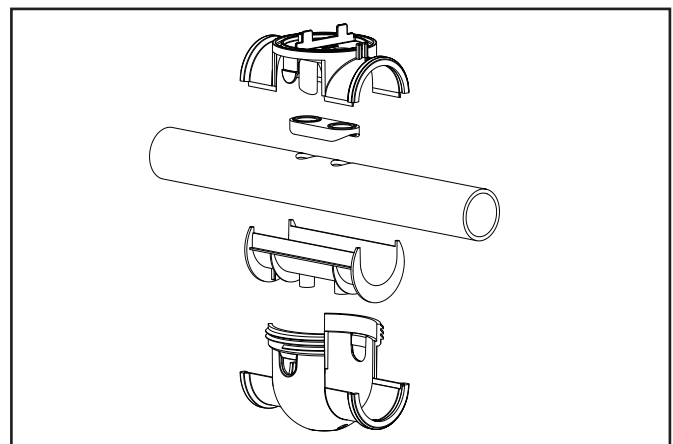

Figure 4. Removing Saddle Clamp from Pipe
7. Press the two (2) push-buttons on either side of the upper clamp to separate the upper clamp from the lower clamp (see Figure 4).